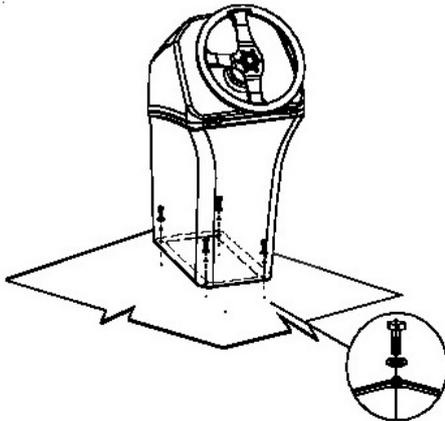

Fig. 6. Installation of steering console CL-11.
- Fix steering console to the deck by means of bolts M8*30 and toothed lock washer (see Fig.6).